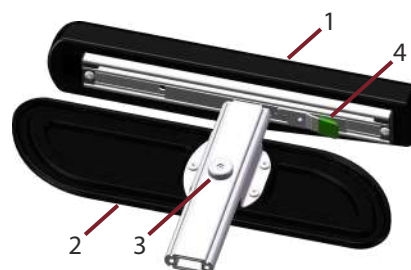

Figure 18. Armrest components
Components, see Figure 18:
- Push the button (3 in Figure 18) and hold it in.
- Press the locking lever (4 in Figure 18) and set the desired position.